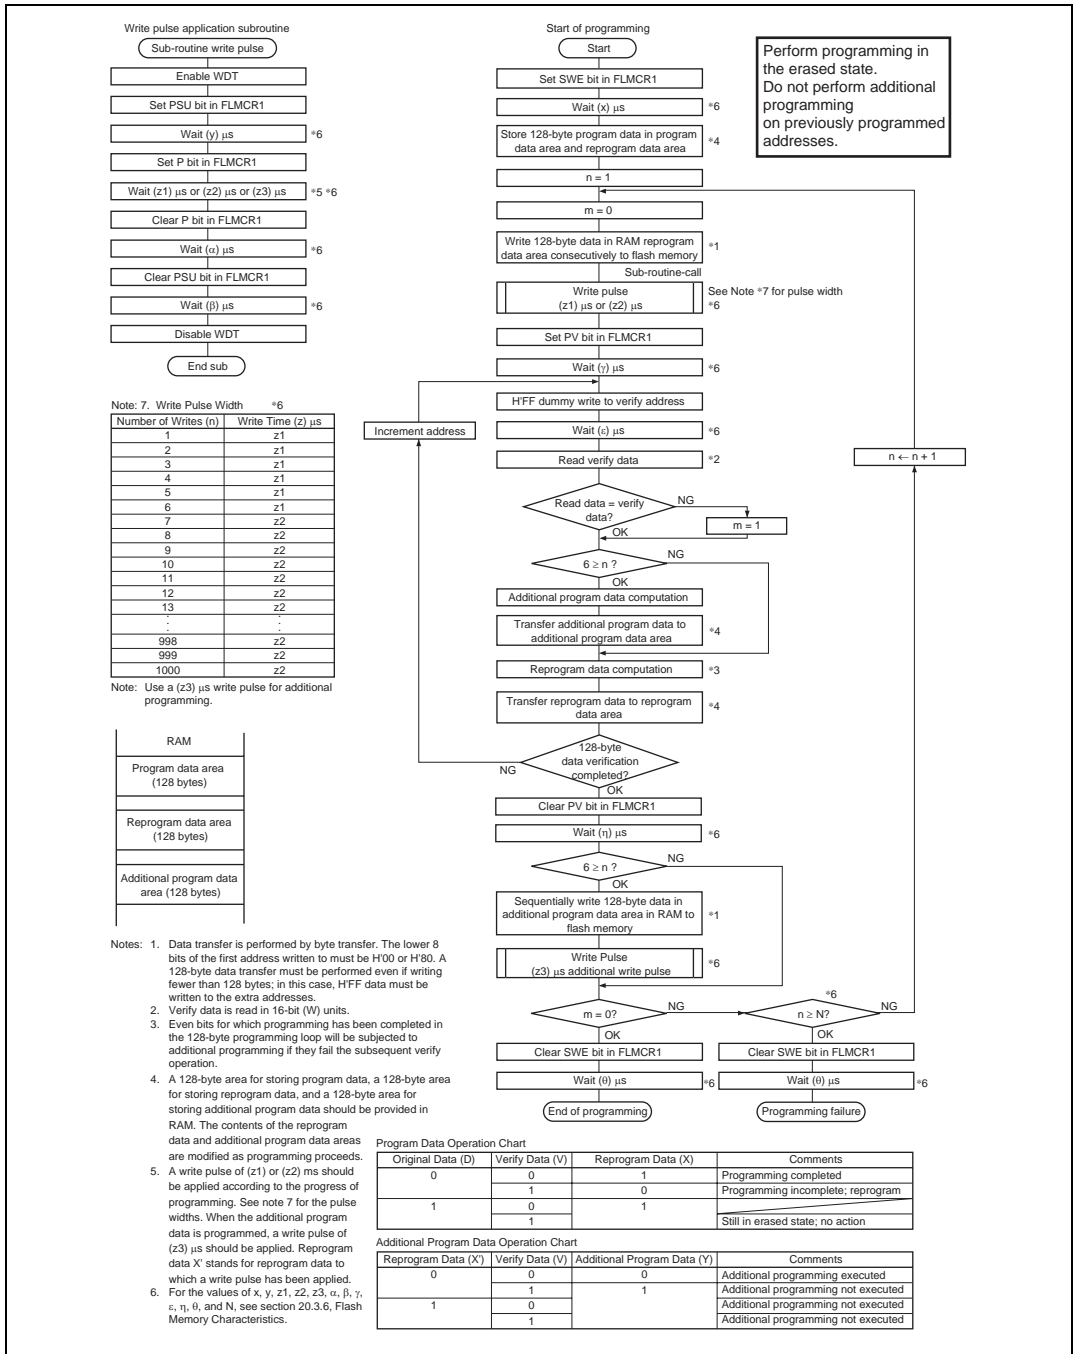

Figure 17.15 Program/Program-Verify Flowchart
Follow the procedure shown in the program/program-verify flowchart in figure 17.15 to write data or programs to flash memory. Performing program operations according to this flowchart will enable data or programs to be written to flash memory without subjecting the device to voltage stress or sacrificing program data reliability. Programming should be carried out 128 bytes at a time.
After the elapse of a given programming time, the programming mode is exited (the P bit in FLMCR1 is cleared to 0, then the PSU bit is cleared to 0 at least $(\alpha) \mu\text{s}$ later). Next, the watchdog timer is cleared after the elapse of $(\beta) \mu\text{s}$ or more, and the operating mode is switched to program-verify mode by setting the PV bit in FLMCR1. Before reading in program-verify mode, a dummy write of H'FF data should be made to the addresses to be read. The dummy write should be executed after the elapse of $(\gamma) \mu\text{s}$ or more. When the flash memory is read in this state (verify data is read in 16-bit units), the data at the latched address is read. Wait at least $(\varepsilon) \mu\text{s}$ after the dummy write before performing this read operation. Next, the originally written data is compared with the verify data, and reprogram data is computed (see figure 17.15) and transferred to the reprogram data area. After 128 bytes of data have been verified, exit program-verify mode, wait for at least $(\eta) \mu\text{s}$, then clear the SWE bit in FLMCR1 to 0, and wait again for at least $(\theta) \mu\text{s}$. If reprogramming is necessary, set program mode again, and repeat the program/program-verify sequence as before. However, ensure that the program/program-verify sequence is not repeated more than (N) times on the same bits.